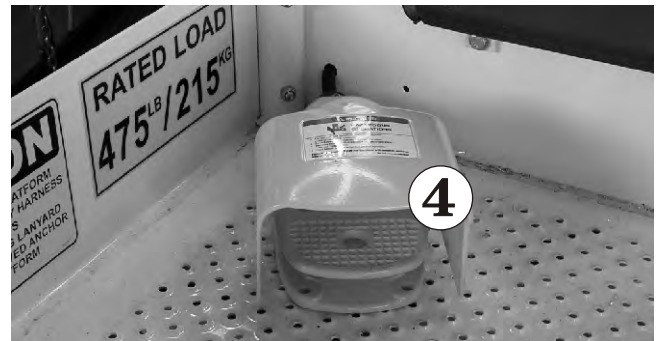

Figure 9.3 - Foot Switch Option
4. Step on the **Platform Foot** switch ④ (see Figure 9.3).
Enable 5 or 4 (foot switch - Figure 9.3)